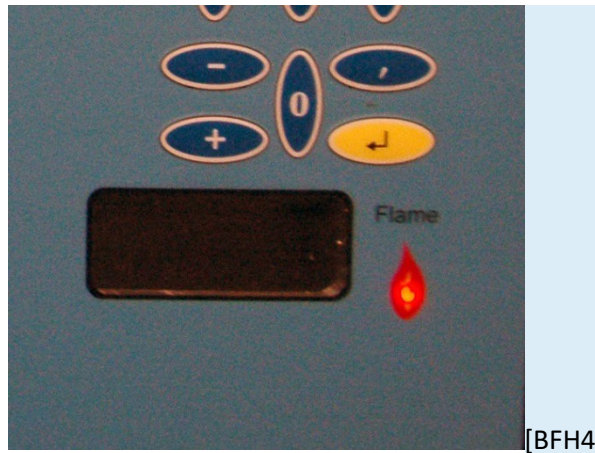

Figure 4: Pilot Flame Indicator Light and View Port
i) When the pilot is lit, the red “Flame” light should be active (Figure 4).